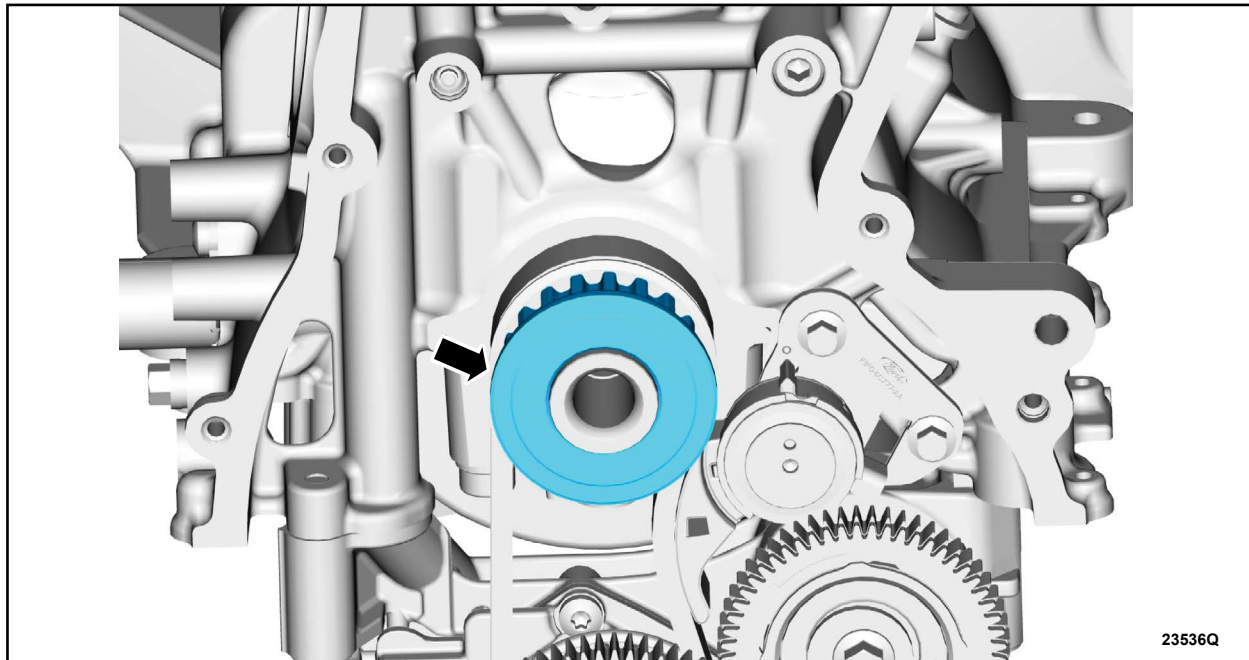

FIGURE 18
24. Remove the timing belt sprocket. See Figure 18.